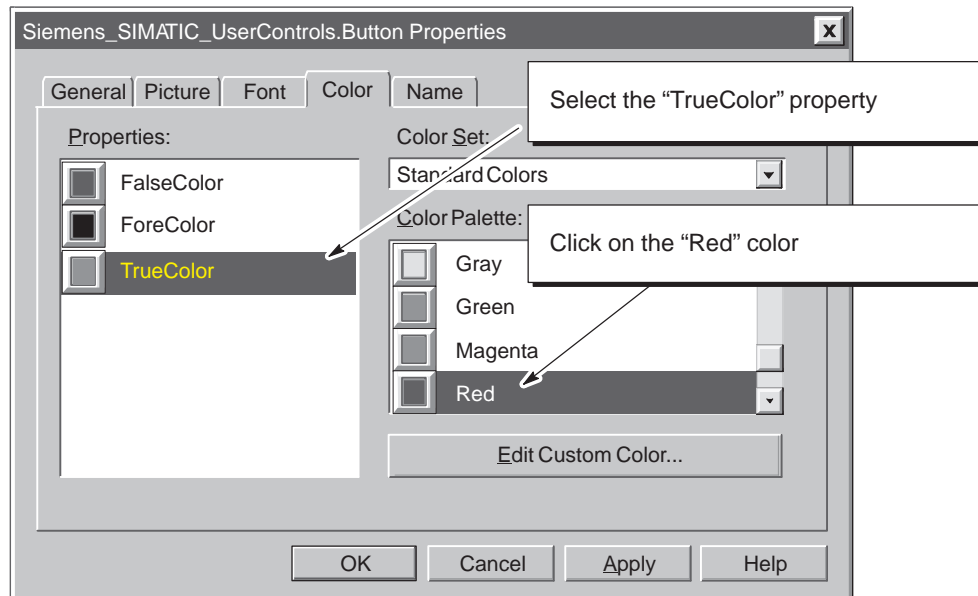

Figure 3-23 Configuring the True Color for Button1 (Button control 1)
9. Select (click on) TrueColor in the “Properties” box and click on the color Red in the “Color Palette” box. See Figure 3-23.